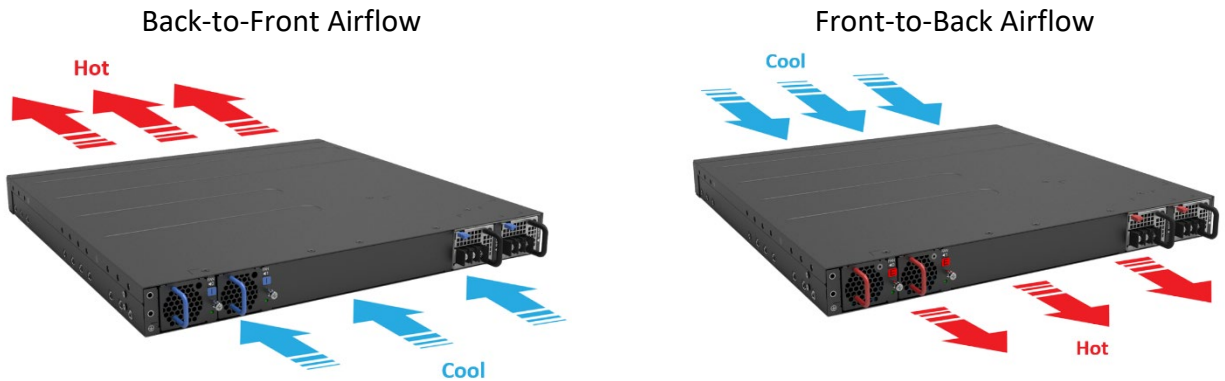

Figure 3.
- Cooling: The S6301-56ST has two options for airflow direction. There is a back-to-front option (Figure 3. Left) and a front-to-back option (Figure 3. Right). Make sure the equipment on the same rack have the same airflow direction.